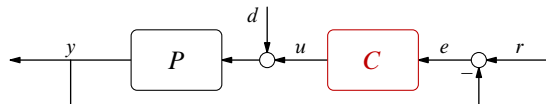

Fig. 2: Unity feedback closed-loop system
is controlled in the unity feedback scheme with static (proportional) controllers of the form  $C(s) = k_p$ , see Fig. 2.
1. Derive the four closed-loop transfer functions (the Gang of Four) for this system. What signals in Fig. 2 each of them connects? What is the closed-loop characteristic polynomial? Under what controller gains the closed-loop system is internally stable?
1. The system is controlled in a standard unity feedback closed-loop scheme, like that in Fig. 2. Can it be controlled (that is, stabilized) by the controller
4. Analyze the nonlinear system with the unity feedback closed-loop controller as in item 1. What is its steady-state response to the reference signal in (3)?
**Question 5** (self study). Consider the unity feedback closed-loop system in Fig. 2. Let